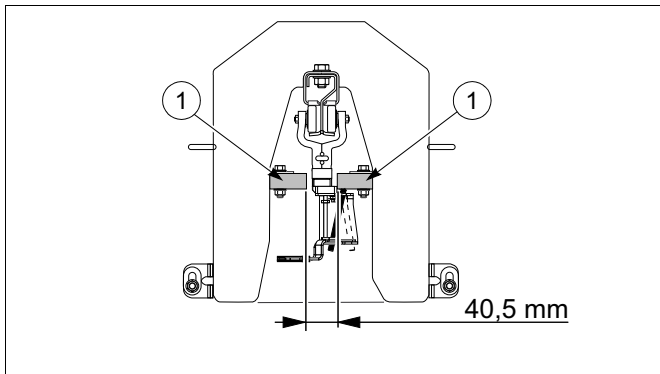

fig. 33 Adjust viscera shackle guides from viscera unloading station without turning station
- Adjust the width between the viscera shackle guides in accordance with fig. 33. Adjust the cutting unit symmetrically with respect to the centre line.